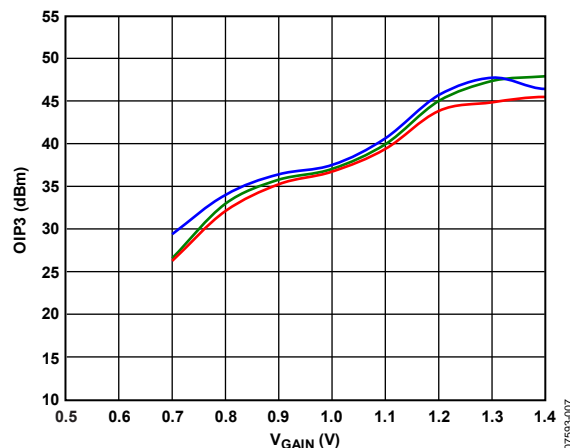
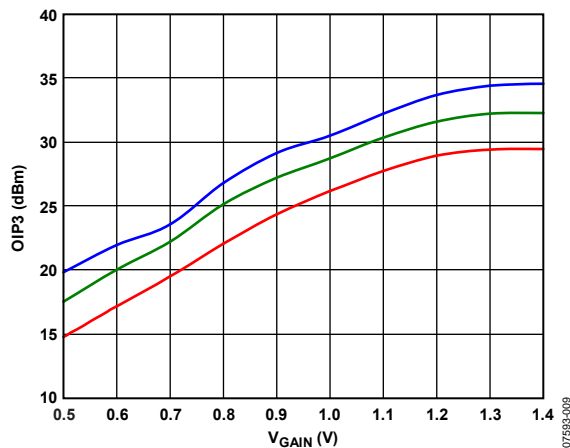

Figure 7. Output IP3 vs. V_{GAIN} at 100 MHz
Figure 9. Output IP3 vs. V_{GAIN} at 900 MHz
At high gain settings, the noise floor is set by the input stage, in which case the noise figure (NF) of the device is essentially independent of the gain setting. Below a certain gain setting, however, the input stage noise that reaches the output of the attenuator falls below the input-equivalent noise of the output stage. In such a case, the output noise is dominated by the output stage itself; therefore, the overall NF of the device gets worse on a dB-per-dB basis as the gain is lowered, because the gain is reduced below the critical value. Figure 7 through Figure 9 provide details of this behavior.
The 1 dB input compression point remains constant at 3 dBm through the majority of the gain control range, as shown in Figure 7 through Figure 9. The output compression point increases decibel for decibel with increasing gain setting. The noise floor is constant up to $V_{\text{GAIN}} = 1$ V where it begins to rise.